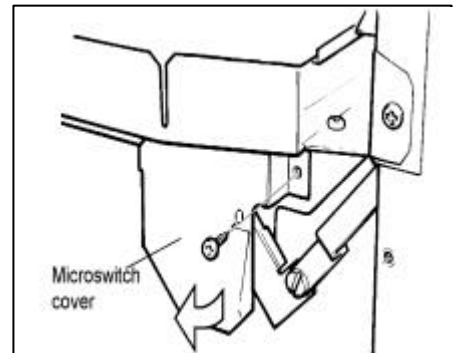

Fig. 38 Microswitch Cover Removal
14.1 TO REMOVE THE IGNITION MICROSWITCH (Figures 38 & 39)
14.1.2 Detach the microswitch cover by removing one screw and pulling clear of the location lug (see figure 38).
14.2 TO REMOVE THE GAS SHUT-OFF MICROSWITCH (Figures 38, 39 & 40)
14.2.2 Detach the microswitch cover by removing one screw and pulling clear of the location lug (see figure 38).